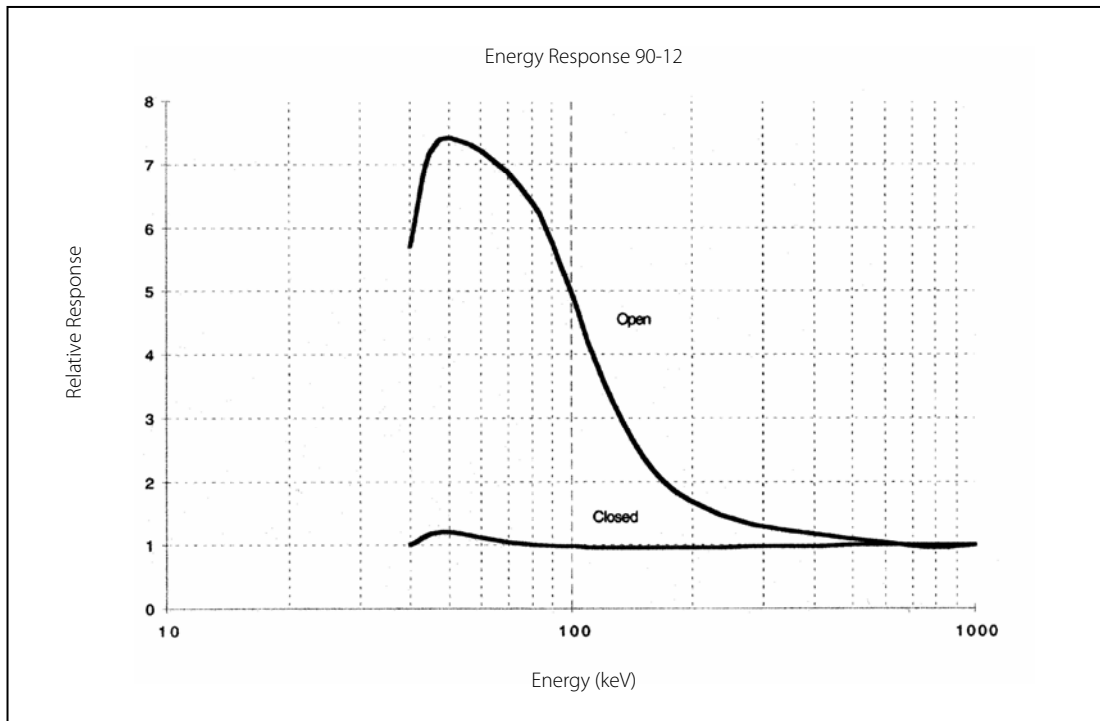

Figure 1-1. Photon Energy Response
The 90-12 is a rugged, lightweight, energy compensated, general purpose Geiger Mueller (GM) tube based hand held probe, with beta shields. These probes are designed to fulfill a variety of radiation measurement needs. The adjustable beta shield is a 360-degree shield with a linear movement to permit discrimination between penetrating and non-penetrating radiation. The two windows expose an angle of 180 degrees total in the most sensitive area of the GM tube. With the shield open the probes measure beta, x-rays, and gamma rays. With the beta shield closed the probes measure penetrating x-rays and gamma rays. The GM probes are available with MHV or BNC connectors. A coiled coaxial cable style is available to connect these probes to a wide variety of Victoreen survey meters. Refer to Figure 1-1 for a general view.
Figure 1-1 shows the photon energy response of the 90-12 probe with the slide open and closed.